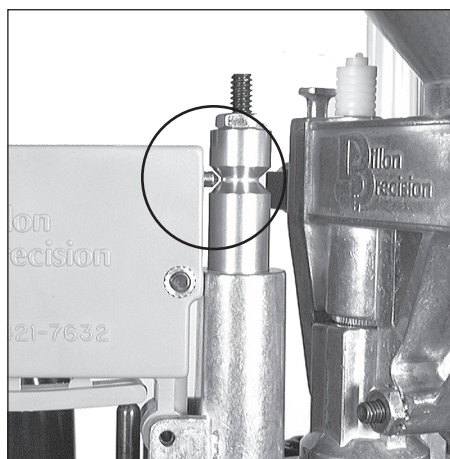

FIG 142
6. Thread the grooved sleeve down so that the contact pin fits inside the groove as seen in FIG 142.